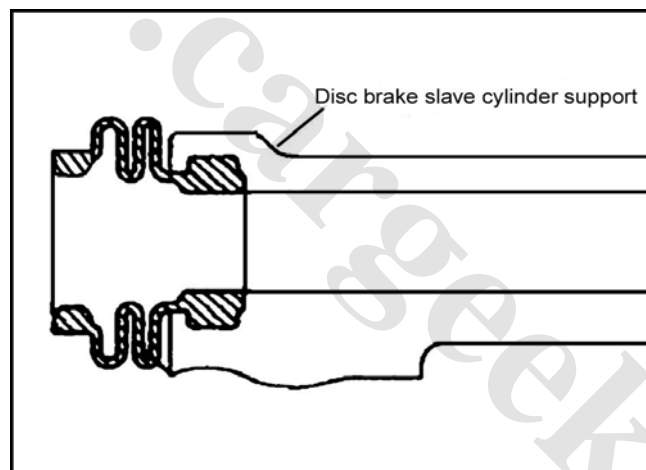

Fig. 2-63
① Dismantle the brake pad with 2 silencer pads.
② Dismantle No. 1 and No. 2 silence pad from each brake pad.
7) Dismantle the dustproof cover of the rear brake sliding pin. Remove the 2 dustproof covers from the support of the rear disc brake slave cylinder. See Fig. 2-63.